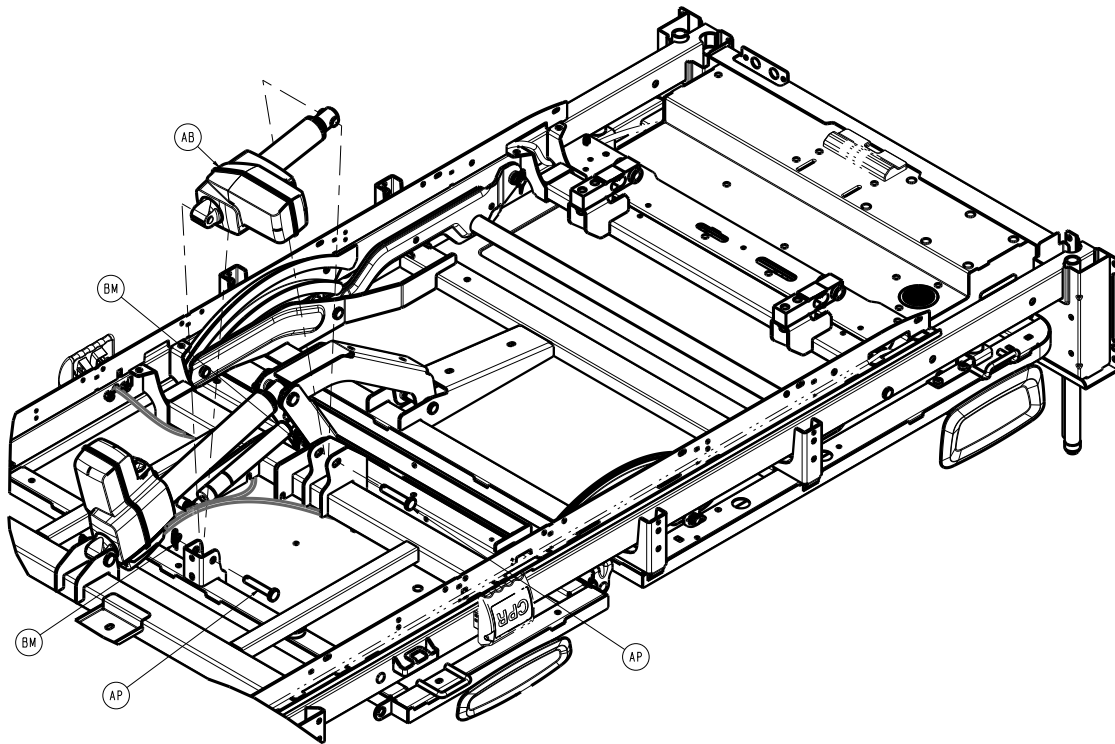

Figure 43 – Replacing the Gatch actuator
6. Using needle nose pliers, remove the two rue clips (BM) from the two clevis pins that secure the Gatch actuator (AB) to the litter and the Gatch frame (Figure 43). Save the rue clips.
7. Support the actuator. Remove and save the two clevis pins (AP) (Figure 43).